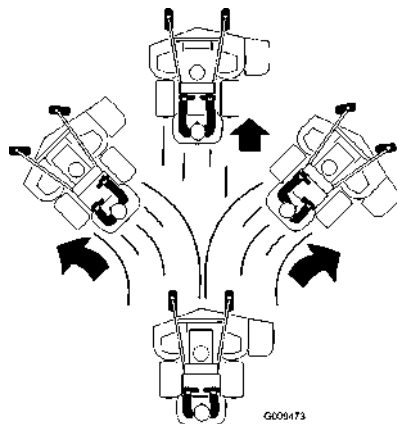

Figure 19
4. Slowly push the motion-control levers forward (Figure 19).